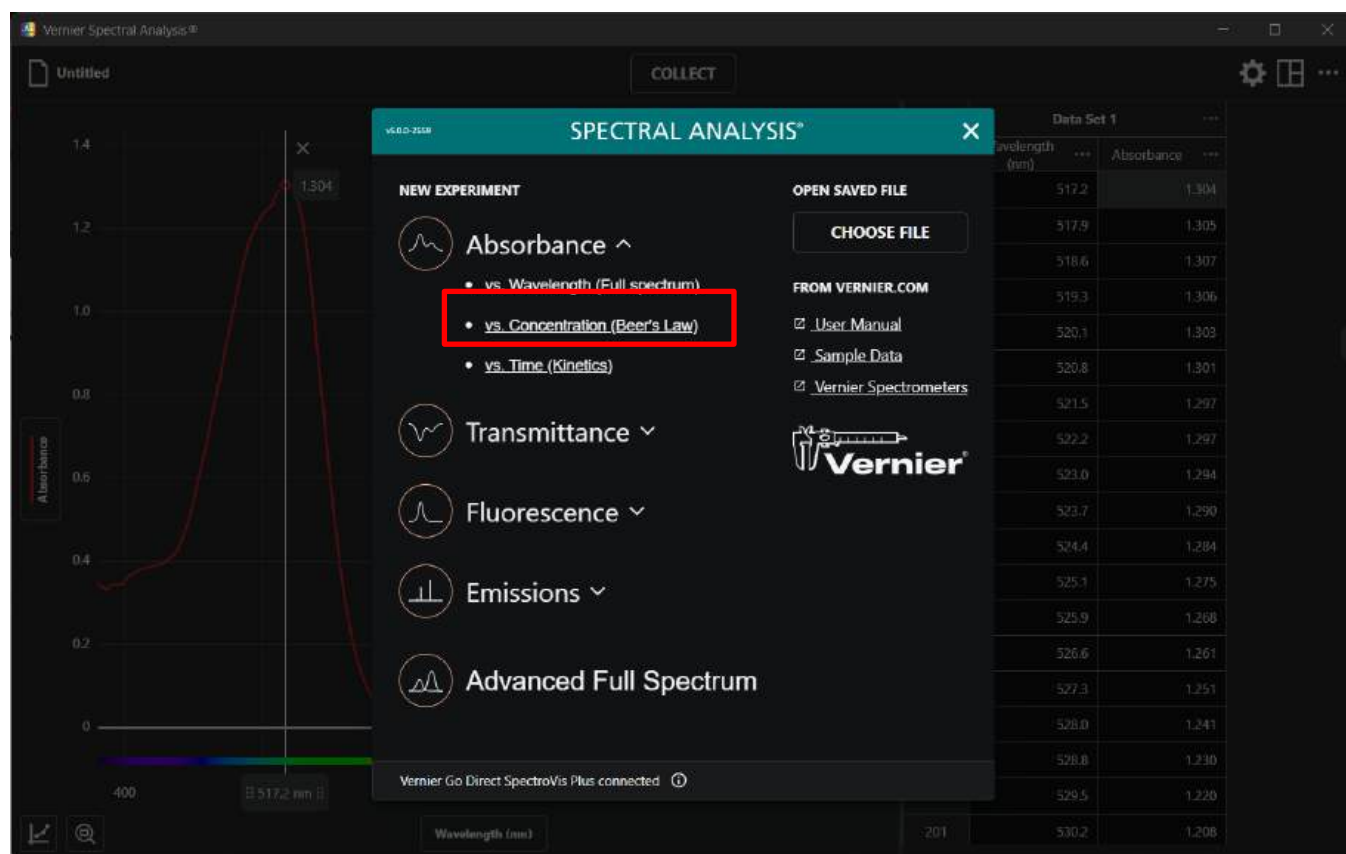

Figure 9: Screen shot of procedure to change spectrophotometer from full spectrum to single wavelength mode.
7. Select “New Experiment” from the file dropdown in the upper left corner of the window. Now select, “vs. Concentration (Beer’s Law)” from the screen, as shown in Figure 9. Enter the wavelength of maximum absorption in the input box. Reinsert your blank cuvette and select “Calibrate Spectrophotometer”. Once calibration is complete, select “Done”. Reference Figure 10 for calibration and experiment setup.